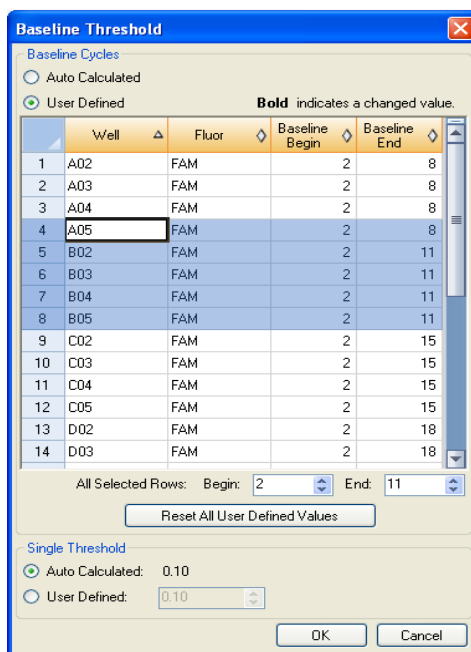

Figure 40. Baseline Thresholds window.
3. Adjust the crossing threshold (Figure 40) for the fluorophore by clicking **User Defined** and entering a threshold number.
Once wells for analysis have been selected, check the baseline settings in these wells. Open the Baseline Thresholds window (Figure 40) to change the default baseline for selected wells. To open this window:
2. Adjust the **Baseline Begin** cycle and **Baseline End** cycle for all selected wells or change the **Begin** and **End** cycle number at the bottom of the spreadsheet (Figure 40).